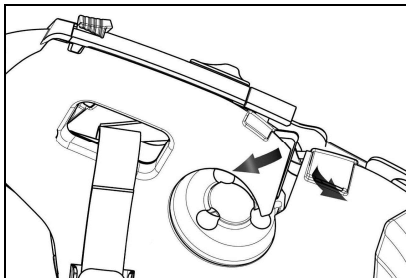

Fig. 11
- Lift up the plastic lining of the cheek padding (Fig. 11)